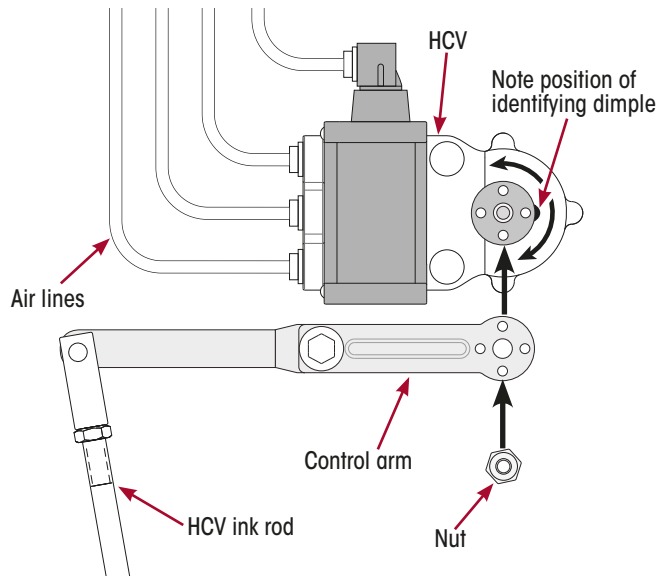
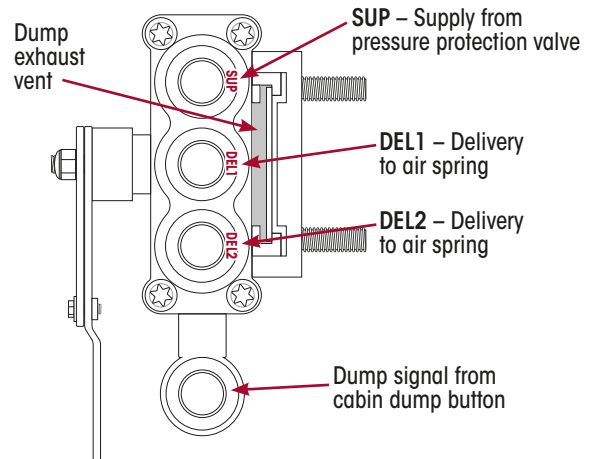
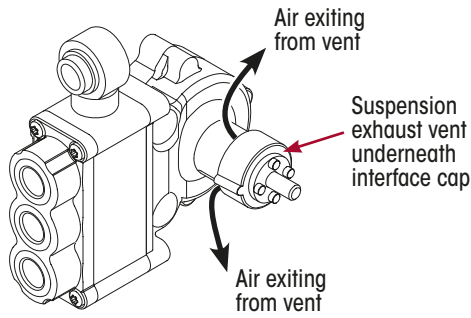

Figure 46: Component Assembly, Location & Orientation
Figure 49: HCV Air Line Connections & Dump Vent
Figure 50: Suspension Exhaust Vent Under Interface Cap
- Find and carefully note the orientation and position of the height control valve, air lines, arm and the identifying dimple on the HCV shaft. Photos taken with a mobile phone may be used as a handy reference. Refer Figure 46 and Figure 49.
- b. The HCV has two delivery ports to the suspension air springs. Connect an air spring air line to either "DEL1" or "DEL2" delivery port. Refer Figure 49. If only one delivery port is to be used the other port must be plugged. (Older valves may show them as "SUSP1" and "SUSP2".)
13. Rotate control arm downwards to around 20 degrees below horizontal. The air spring should now begin deflating through the HCV exhaust port, which is underneath the interface cap. Refer Figure 50. This is different from the dump air vent, which is under a cover on the rear of the valve. Refer Figure 49.
IMPORTANT: Height control valves will often continue to exhaust air from the exhaust, located under the interface cap, for several minutes after a vehicle has stopped. This is a normal operating function of the HCV as the vehicle stabilises, hence, does not indicate an HCV is leaking or faulty. Refer Figure 50.